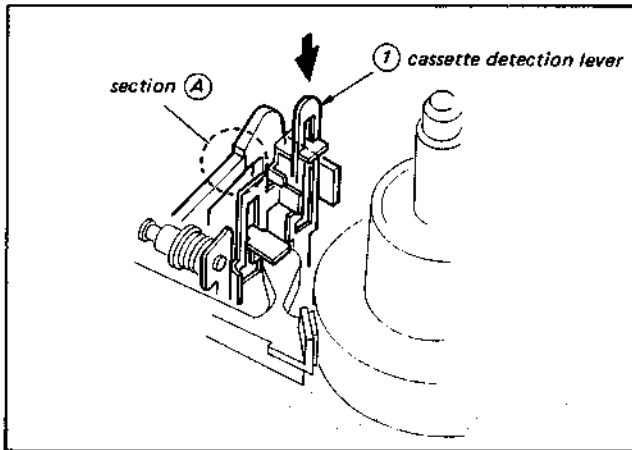
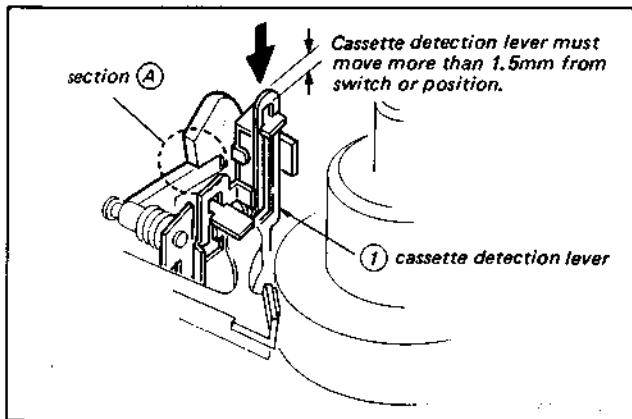

Fig. 3-20. Operation check of cassette-in switch
Fig. 3-21. Operation check of cassette-in switch
2. Set section (A) as shown in Fig. 3-20.
3. Confirm that the microswitch mounted on the underside of the machine does not turn on when the cassette detection lever (1) is pushed in the arrow direction.
4. Set section (A) as shown in Fig. 3-21.
5. Confirm with a click that the microswitch mounted on the underside of the machine turns on when the cassette detection lever (1) is pushed in the arrow direction.
6. Adjust the mounting position of cassette detection (1) so that it moves more than 1.5mm further from the point where the click is heard.
Note: ♦ The problem where the cassette-lift assembly does not lock occurs if the microswitch turns on in the condition shown in Fig. 3-20.
♦ The problem where the modes other than the EJECT mode cannot be set up occurs if the microswitch does not turn on in the state shown in Fig. 3-21.